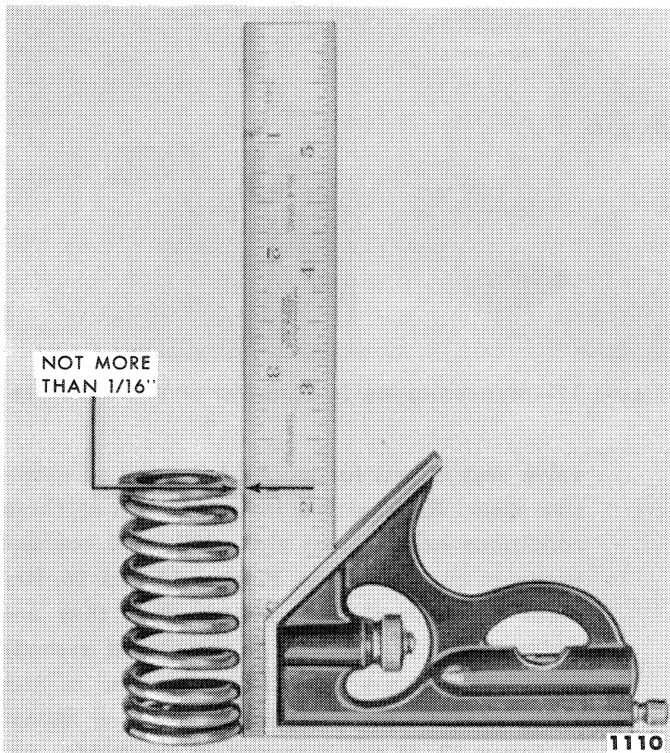
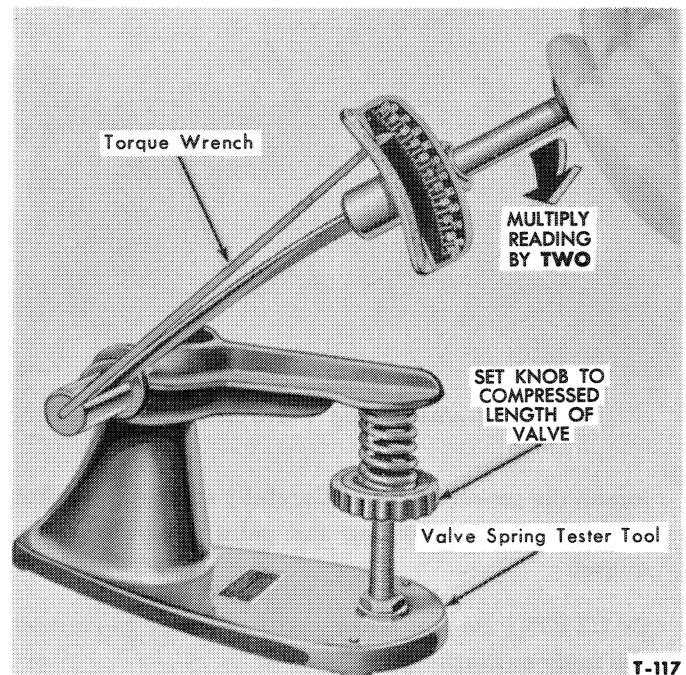

Figure 19—Checking Valve Spring Squareness
Figure 20—Checking Valve Spring Tension
3. Discard valve springs that show evidence of rust. Check each valve spring for squareness as shown in Figure 19. Discard valve springs that are in excess of $\frac{1}{16}$ " of being square. Check the spring tension as shown in Figure 20. Each spring should exert a pressure of 54-62 lbs. when compressed to a length of 1.82" or 124-140 lbs.